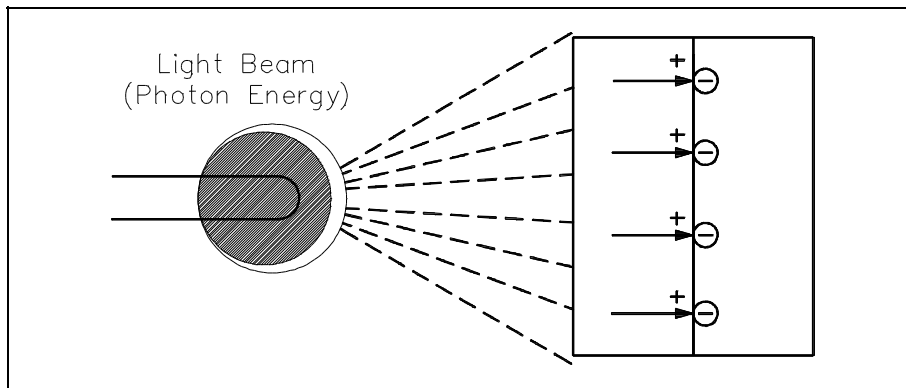

Figure 16 Producing Electricity from Light Using a Photovoltaic Cell
Light is a form of energy and is considered by many scientists to consist of small particles of energy called photons. When the photons in a light beam strike the surface of a material, they release their energy and transfer it to the atomic electrons of the material. This energy transfer may dislodge electrons from their orbits around the surface of the substance. Upon losing electrons, the photosensitive (light sensitive) material becomes positively charged and an electric force is created, as shown in Figure 16.
- Photovoltaic: The light energy in one of two plates that are joined together causes one plate to release electrons to the other. The plates build up opposite charges, like a battery (Figure 16).